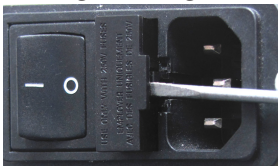

Fig. 16—Insert the screw driver under the fuse housing lip and pry the housing open.
3. Insert a small flat blade screwdriver under the lip on the right side of the fuse housing cover (Fig. 16).